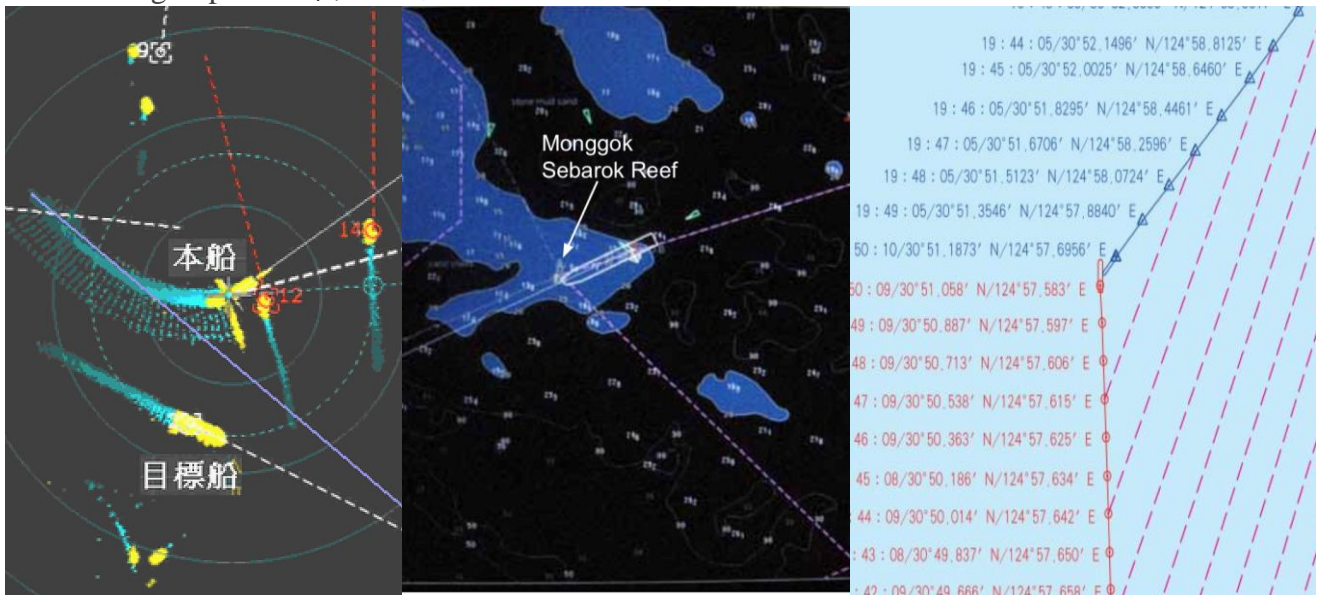

Figure 6-12: Target relative / true bearing change and heading change
1. Case 1: One target outside ownship's turning circle (upper one, green bearing line): its Relative Bearing RB change (from starboard side to port side) is larger than its True Bearing TB change (still at  $033^{\circ}$  –  $045^{\circ}$  (T)) when ownship is turning toward it. This target had passed ownship's bow after turning. Even its compass bearing change is not obvious in ownship's turning first two stages its compass bearing change will become more *appreciable* after ownship had steady in new course in third stage. Although TB change is not immediate available (*appreciable*) to ownship its RB relative bearing change could be used to access collision risk if RB change is continuous. Relative Bearing change first then true bearing also change, no collision risk. **If relative bearing changed but true bearing did not change appreciable there will be a collision risk.** See figure 6-12 left picture, target vessel is dead ahead three minutes before collision judged from her 3 minutes trail on ownship's heading. At time of collision, target vessel's compass bearing is about the same at ownship's southeast direction but her relative bearing had changed from ownship's bow to our starboard quarter. In this case, collision comes when target vessel's Relative Bearing changed in the beginning then stopped change while ownship turning. **RB unchanged in the last minute happened collision in case 1.**
2. Case 2: One target inside ownship's turning circle (lower one, red bearing line): its Relative Bearing RB change is almost unchanged while ownship's turning pass abeam of her. However, its True Bearing TB change is *appreciable* when ownship is turning toward it. This target distance still close to ownship and collision risk is not dissolved. Even its compass bearing change is very obvious when ownship's turning her collision risk is still there. Although TB change is immediate available (*appreciable*) it is useless for collision avoidance purpose. To avoid collision with target inside our turning circle, TB change is no use RB change is necessary. **If relative bearing did not change at all there will be a collision in case 2.** See figure 6-12 right picture, in SANCHI case both compass bearing and relative bearing had not changed.
In COLREG, two vessels have collision risk is based on "*such risk shall be deemed to exist if the compass bearing of an approaching vessel does not appreciably change*". From the discussion above, we know when ownship go straight or alter course toward a target vessel has collision risk her compass bearing will not change. Only when ownship's turning had reached third stage or ownship's hull had left original course line target vessel's compass bearing will begin its change. In figure 6-12 left picture these two vessels have collision because their *compass bearing does not appreciably change*. we see ownship has abeam distance at third stage and collide with target vessel off original course line. The proximate cause of his collision is ownship's turning. The hidden cause is Captain's knowledge of turning characteristics is not enough, don't know how to estimate ownship's turning circle. I think most of us also forget here. It is our space ship status or 3 minutes speed vector to represent it.